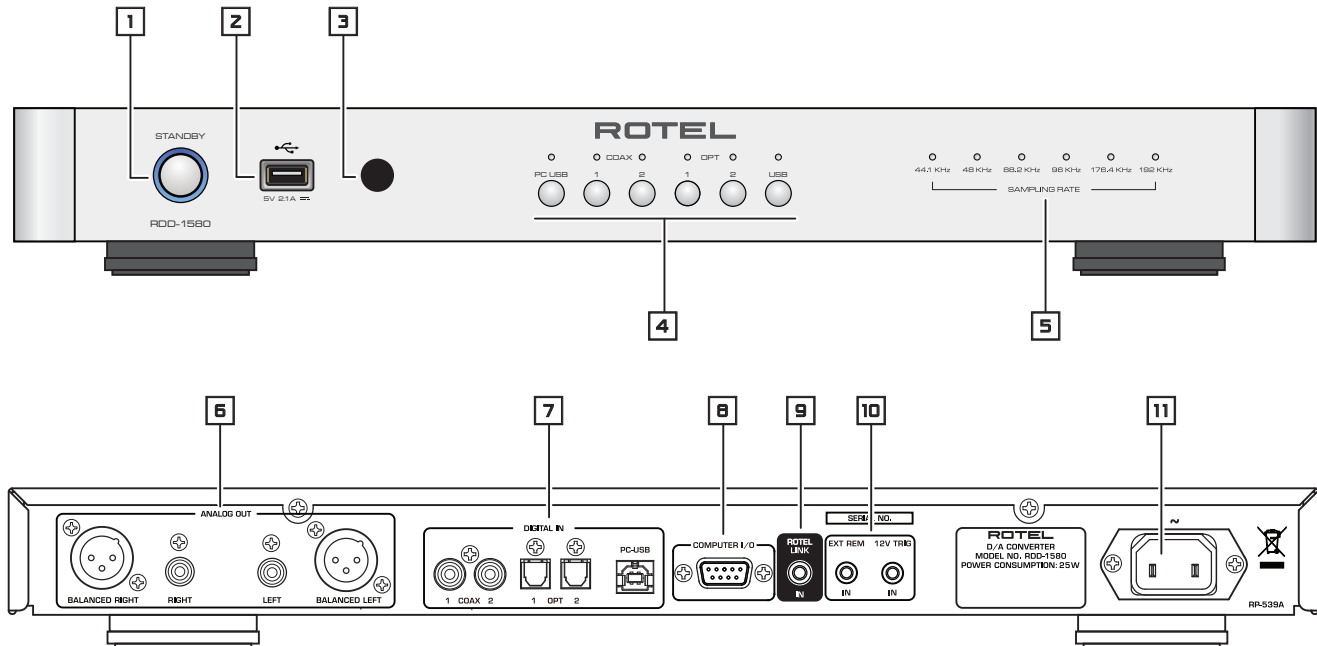

Figure 2: RR-DD91 Remote Control
- Figure 2: RR-DD91 Remote Control 3